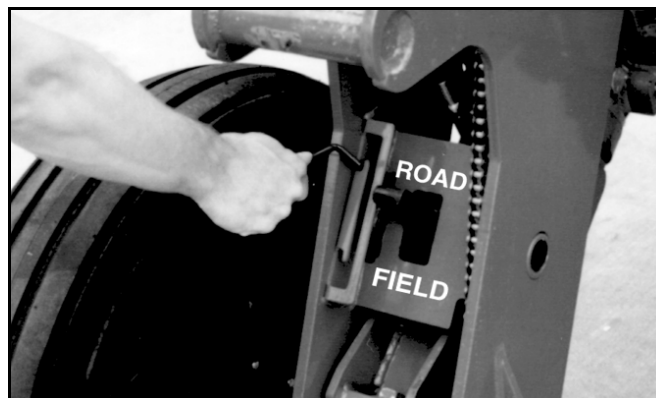

Figure 30
2. Position opener lock handles in road position and as shown in Figure 30 and completely raise openers.